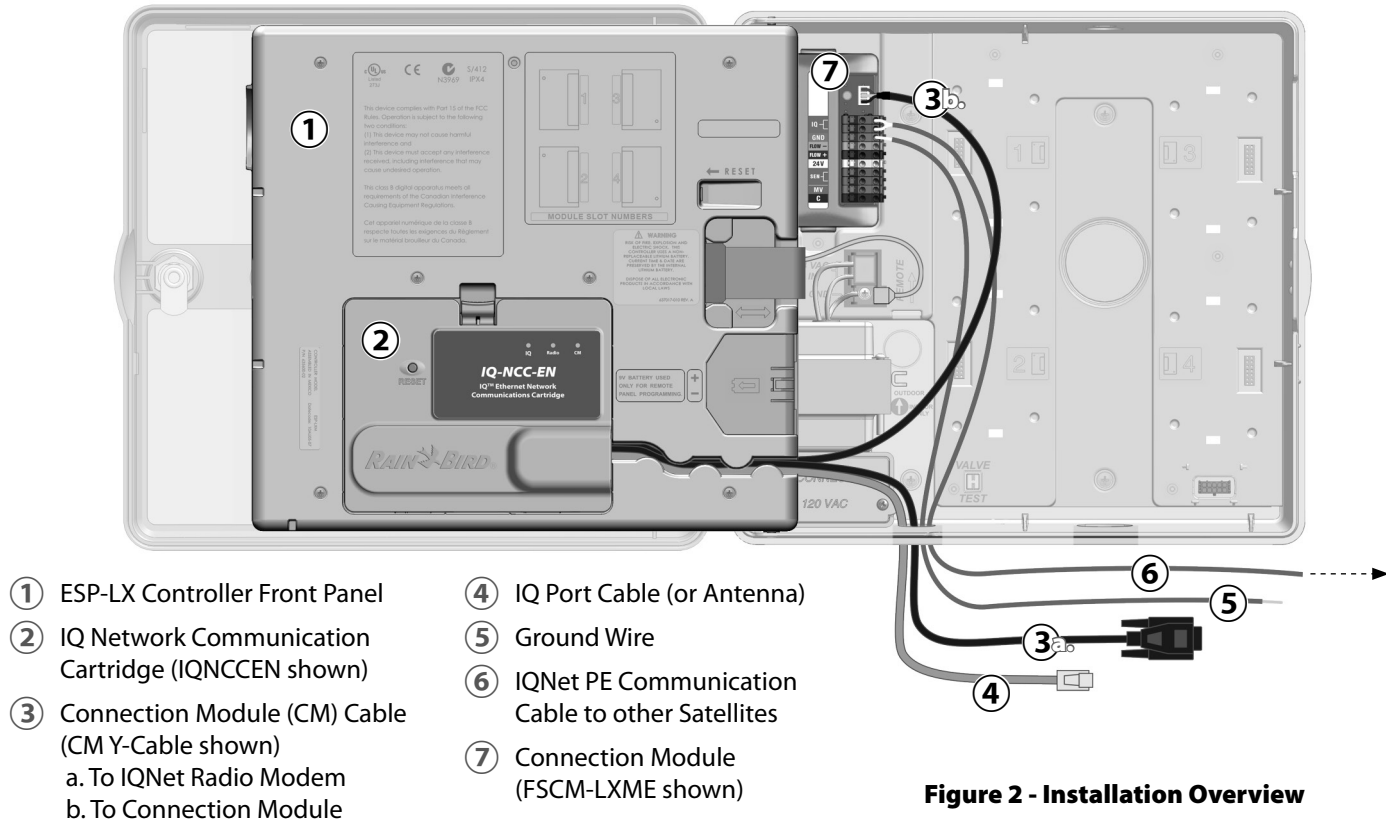

Figure 2 - Installation Overview
- Connection Module (CM) 8
- Connection Module (CM) Port Cable..... 8
- Figure 2 - Installation Overview 9